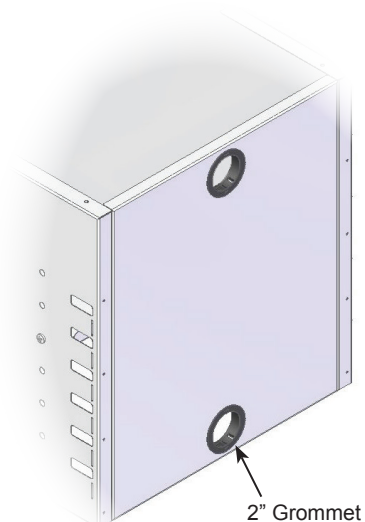

Figure 1.2
2. Install (2) 2" grommets in the back panel. **Figure 1.2.**